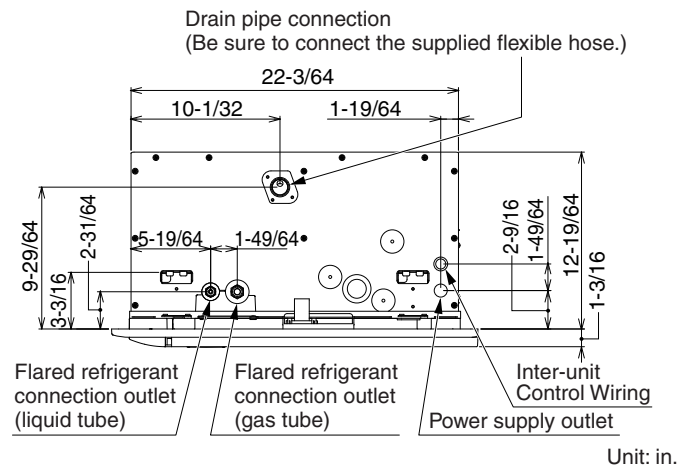

Fig. 3-53
- (3) Calculate the suspension bolt pitch using the full-scale installation diagram (printed on the package). The relationship between the positions of the suspension lugs, unit, and ceiling panel is as shown in Fig. 3-53.
- (4) Cut the ceiling material, if necessary.